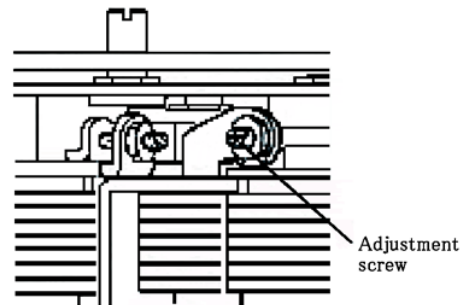
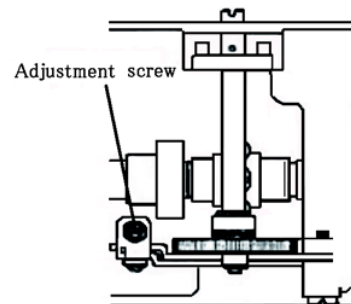

Fig.2(SD)
Fig.3(2D,3D)
2. Turn the adjustment screw, eliminate the difference of stitch numbers at right and left. (SD: Fig. 2, 2D/3D: Fig. 3)